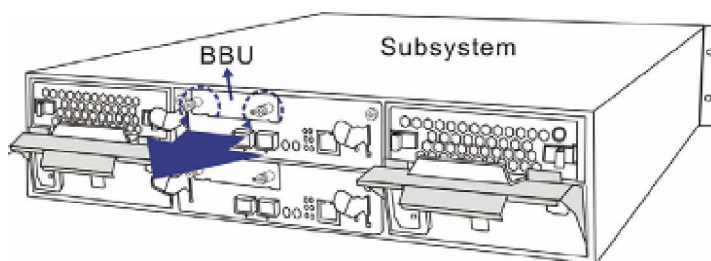

Figure 5-9: Removing the BBU
Step 1. Remove the faulty BBU from the chassis by loosening the two (2) retention screws located on both sides of the BBU, then pulling out the BBU. (See **Figure 5-9**)